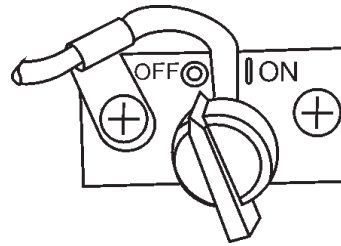

Figure 14. ON/OFF Switch (Off Position)
2. After the engine **cools**, turn the engine **ON/OFF** switch to the **OFF** position (Figure 14).